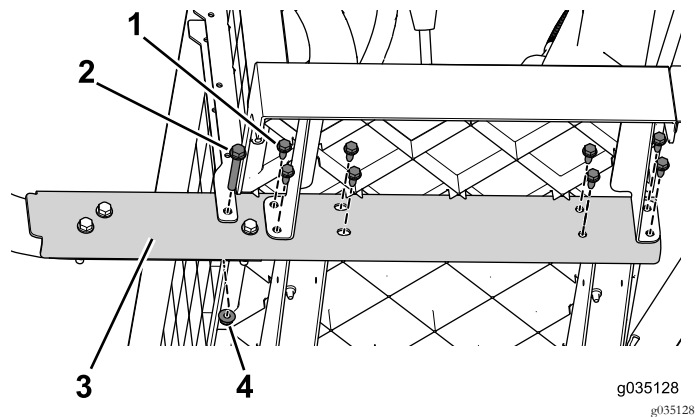

Figure 65
3. Remove the flange bolts (3/8 x 2-1/2 inches) and nuts that secure the side rail to the machine (Figure 65). Do this on both sides of the machine.
4. Working from front to back, remove the flange bolts (5/16 x 3/4 inch) that secure the side rail to the machine (Figure 65). Do this on both sides of the machine.